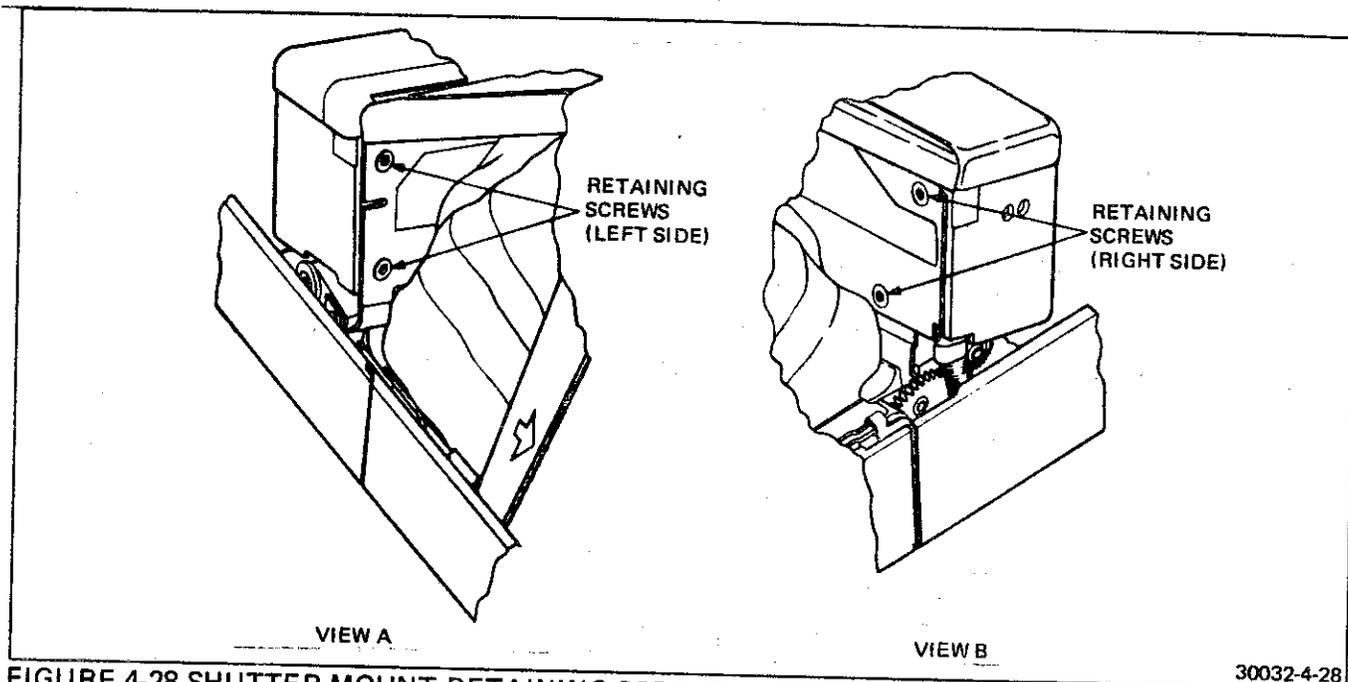

FIGURE 4-28 SHUTTER MOUNT RETAINING SCREWS
- d. At the back side of the shutter mounting bracket, remove four screws which secure the shutter. (Figure 4-28).
- At the back side of the shutter mounting hinge bracket, remove the four screws which secure the shutter to the bracket. See Figure 4-28. Lift off the shutter.